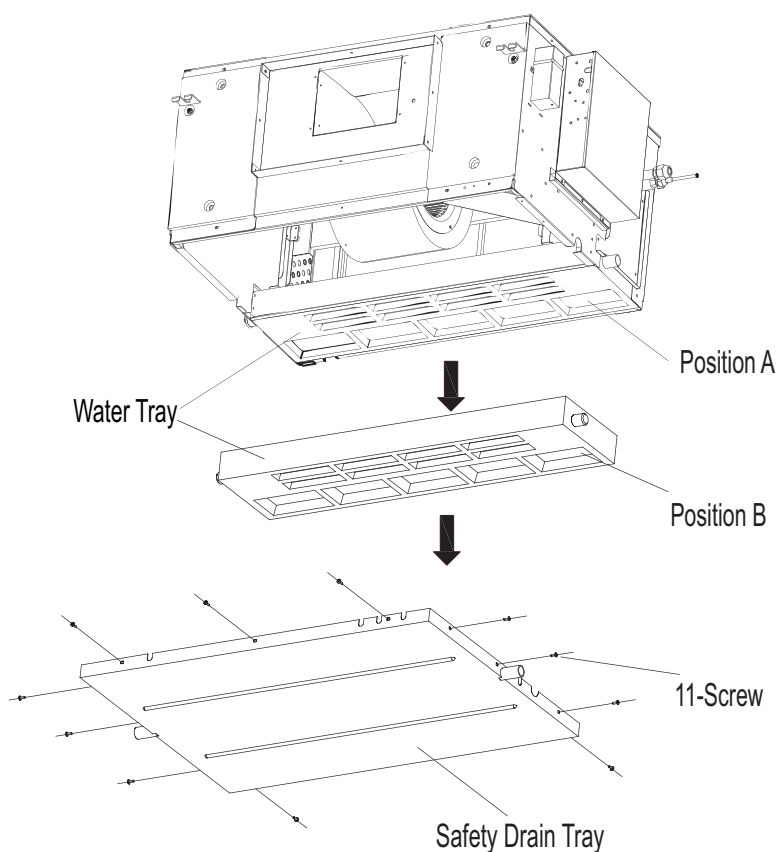

Fig.4-12
3. Take off the tray along the direction of the arrow show in Fig.4-12